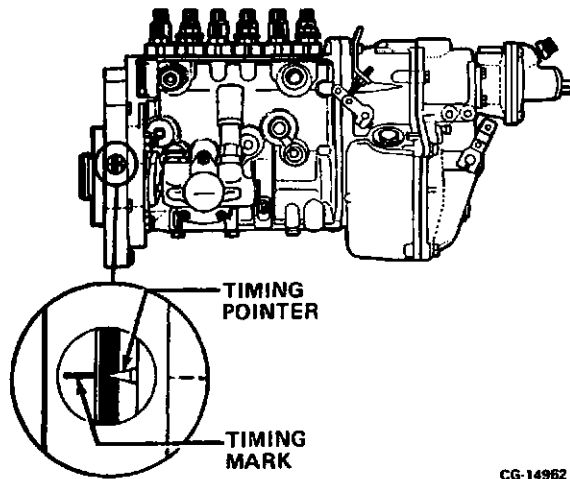

Figure 11.77. Injection Pump Timing Marks
- c. Verify the alignment of the injection pump timing pointer to the drive hub scribe line through the adapter housing sight plug. Refer to **Figure 11.77**. Rotate the pump hub as required for proper alignment.